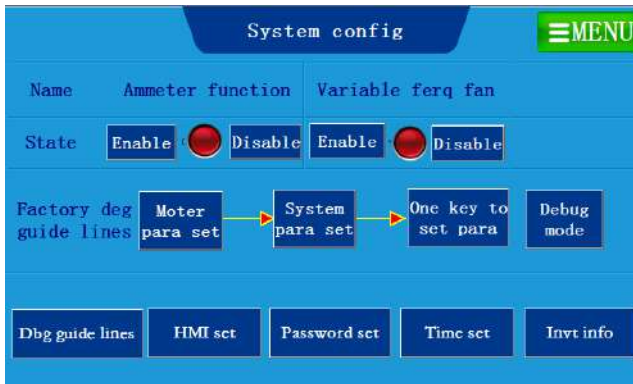

Figure 4-5 System configuration interface
5. Click **System config** in the touch screen to enter the system configuration interface, as shown in Figure 4-5.